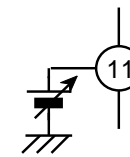

Fig.3
6. Power save mode is provided for saving Icc less than about 10mA as Fig.3.